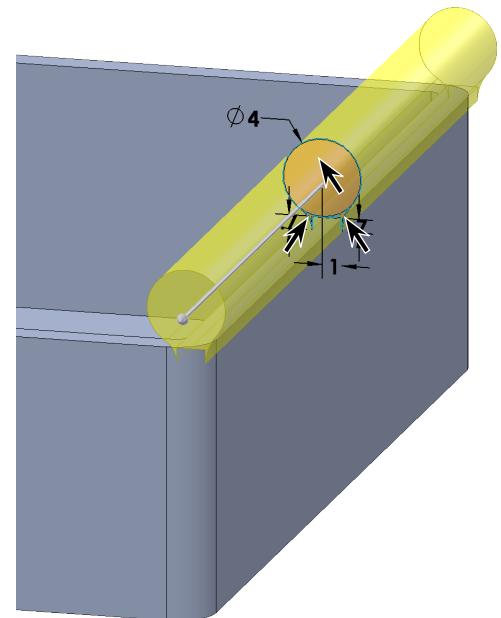

Fig. 12
Step 21. Rotate view to **hinge**, **Fig. 12**. Use **Left Arrow key**  **once** and **Down Arrow key**  **once**.
click **3 contours**, **Fig. 12**